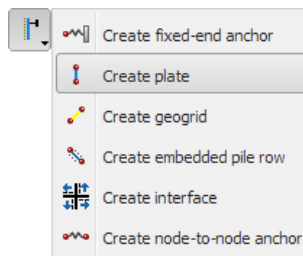

Figure 2.2 The *Create plate* option in the *Create structures* menu
- In the expanded menu select the *Create plate* option (Figure 2.2).